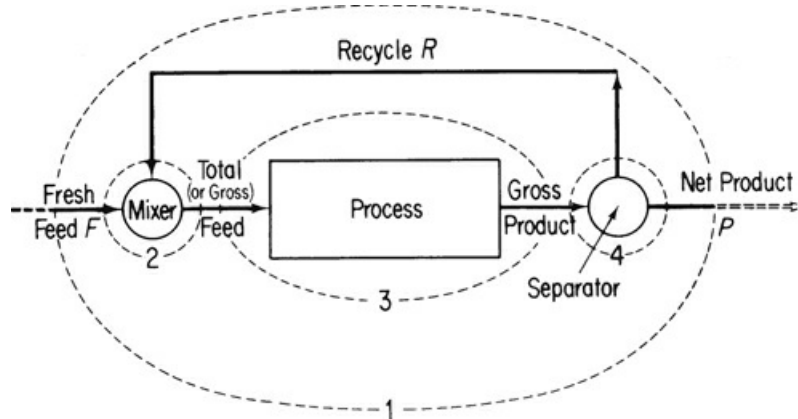

Figure 5.6 Process with recycle. The numbers and dashed lines designate possible system boundaries for the material balances; see the text.
You can formulate material balances for recycle systems without reaction using the same strategy explained in Chapter 3 and applied in subsequent chapters. Examine Figure 5.6.
The main new aspect of solving problems involving recycle is picking the proper sequence of systems to analyze. You can write material balances for several different systems, four of which are shown by dashed lines in Figure 5.6, namely:
1. About the entire process including the recycle stream, as indicated by the dashed boundary identified by 1 in Figure 5.6. Such balances contain no information about the recycle stream. Note that the **fresh feed** enters the overall system, and the **overall or net product** is removed and can be used to determine the extent of reaction when the process under consideration is a reactor and the reactions are known. You can also employ element balances, as explained in Chapter 4.
2. About the junction point at which the fresh feed is combined with the recycle stream (identified by 2 in Figure 5.6).
3. About the process itself (identified by 3 in Figure 5.6). Note that the **process feed** enters the process and the **gross product** is removed.
4. About the separator at which the gross product is separated into recycle and overall (net) product (identified by 4 in Figure 5.6).
Note that in Figure 5.6, the recycle stream is associated both with the mixer, which is located at the beginning of the process, and with the separator, which is located at the end of the process. As a result, recycle problems lead to coupled equations that have to be solved simultaneously. You will find that overall material balances (1 in Figure 5.6), particularly with a tie component, are usually a good place to start when solving recycle problems. If you solve an overall material balance(s) successfully, that is, you are able to calculate all or some of the unknowns by using